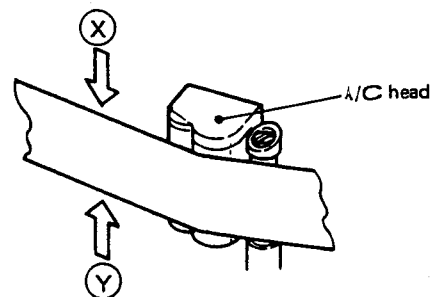

Fig. 2-50 A/C head height check
3. Refer to Fig. 2-50 and gently press point (X) of the tape downward. Confirm that the TP3 (L-ch) output does not increase by more than 0.5 dB.
4. Similarly, gently press point (Y) of the tape upward. Confirm that TP4 (R-ch) output does not increase by more than 0.5 dB.